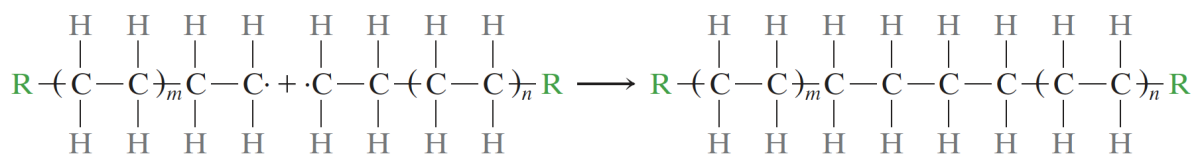
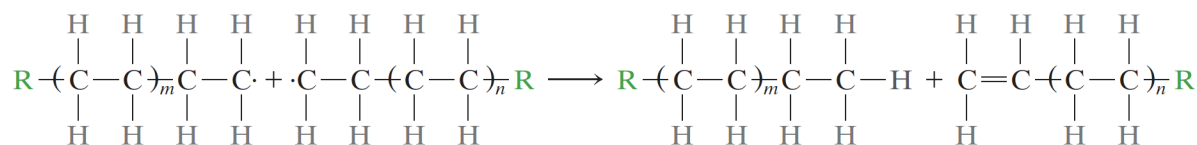

Figure 5: A combination reaction of two active polymer chains.
Figure 6: A disproportionation reaction resulting in two 'dead' chains.
3. **Termination:** The propagation process can terminate in two ways: (i) the active ends of two propagating chains may link together to form one molecule in a *combination* reaction (see Figure 5), or (ii) two chains may react in a *disproportionation* reaction to again form two chains which are chemically inert (see Figure 6).